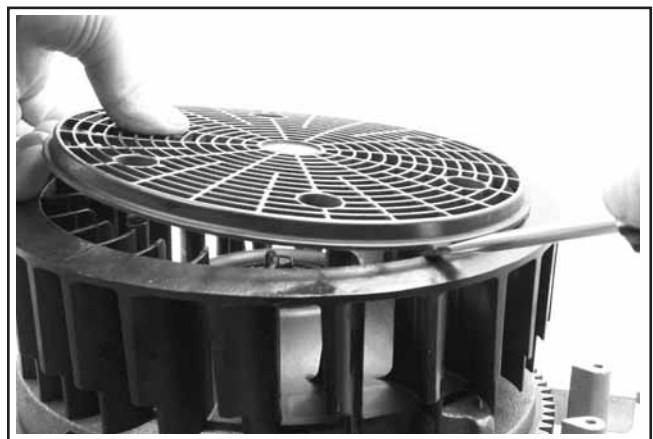

Figure 8-35. Removing Grass Screen.
1. Unsnap the grass screen from the cooling fan. See Figure 8-35.